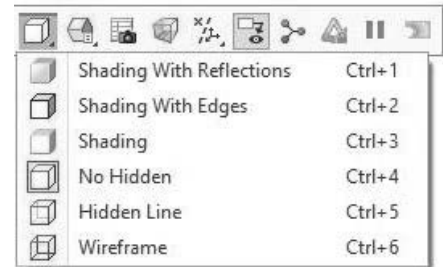

Figure 3-12 Object Viewing Options
**Display Style**—Determines how the object is to be viewed. See Figure 3-12.